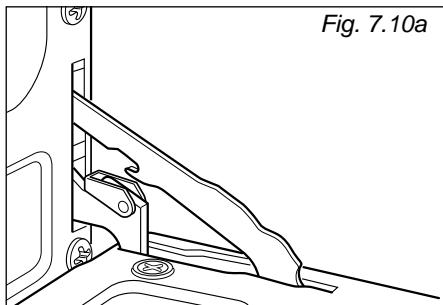

Fig. 7.10a
- Open the door to the full extent (fig. 7.10A).